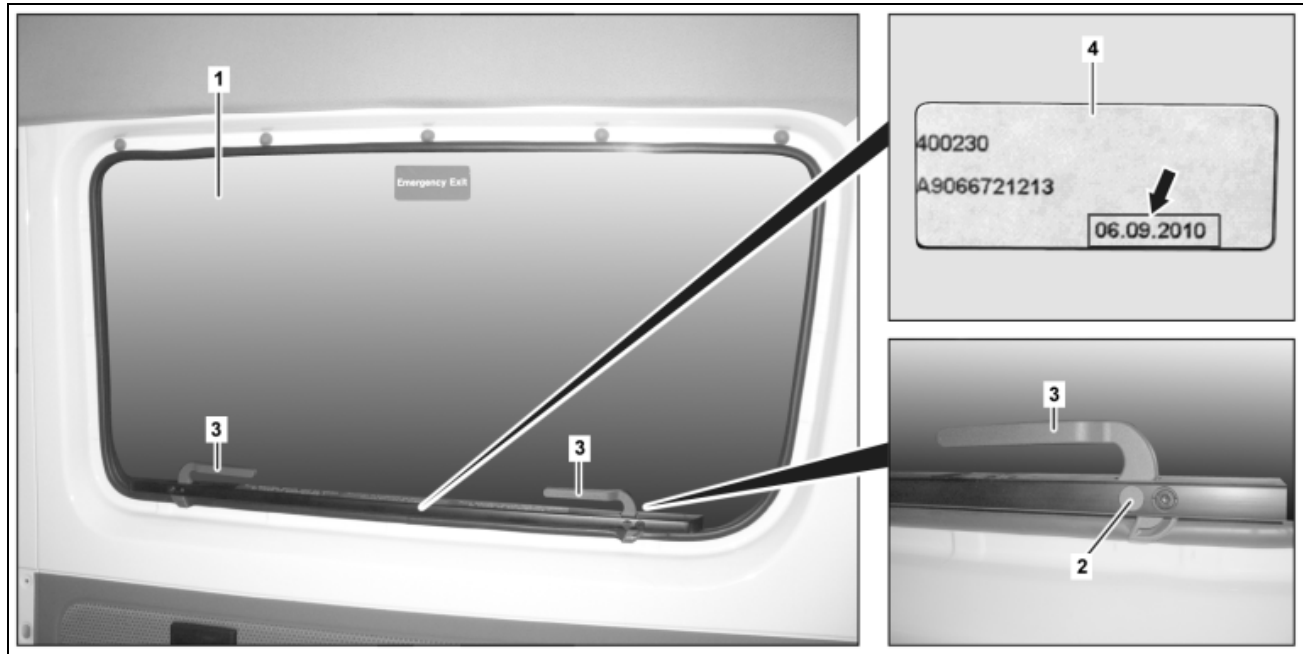

Figure 1
1. Open emergency exit window (1, Figure 1):
- Remove any lead seal (2) pieces from holes in sealing frame.
- Open window (1, Figure 1) slightly.
2. Check if window (1, Figure 1) is loose at top hinge:
- If window (1) **is** loose at top hinge when opened, proceed to step 5 (replace emergency window).
- If window (1) is **not** loose at top hinge when opened, proceed to step 3 (check manufacturer's date).
3. Check manufacturer date (arrow, Figure 1) on sticker (4) affixed to bottom edge of emergency exit window (1):
4. Close and lock window (1, Figure 1) in reverse order:
- Press new lead seals (2, Figure 1) into sealing frame.